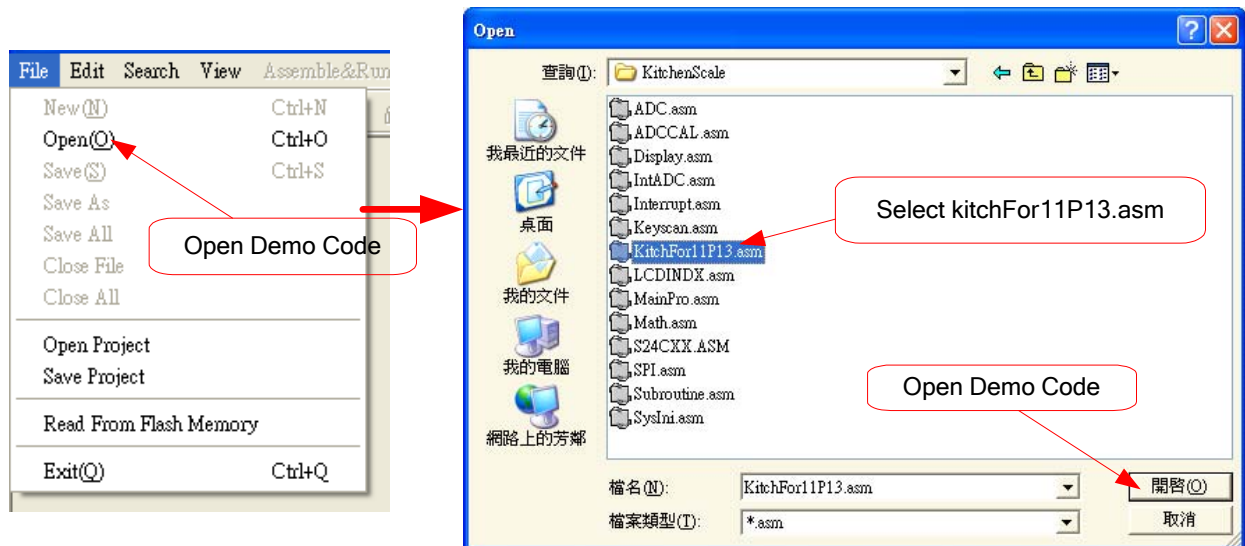

Figure 6
6. If the process failed, a dialog will be shown as Figure 6